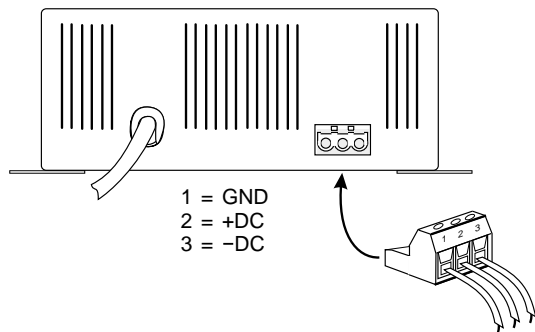

Figure 1 Model 721 cabinet showing 3-position plug-in terminal strip.
3.6 DC OUTPUT CONNECTIONS Before connecting to the DC output ensure that the power cord is not plugged into an outlet. Be certain that the DC output LED is not lit. The DC-output connections are made via a 3-position plug-in terminal strip. The terminal strip is located on the bottom face of the unit, adjacent to the where the power cord exits the chassis, as illustrated in Figure 1.